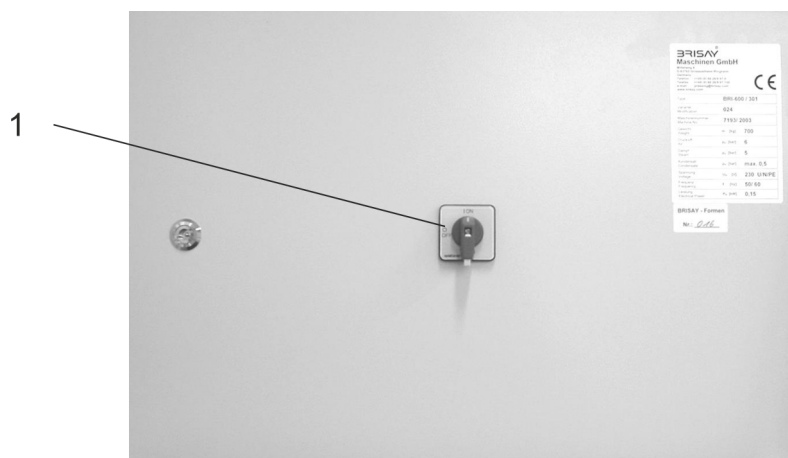

Fig. 17: Switch cabinet
1. ➤ Switch on the main switch at the switch cabinet, ↗ *Chapter 7.1.1 'Switch cabinet' on page 52, Fig. 17, Pos. 1*